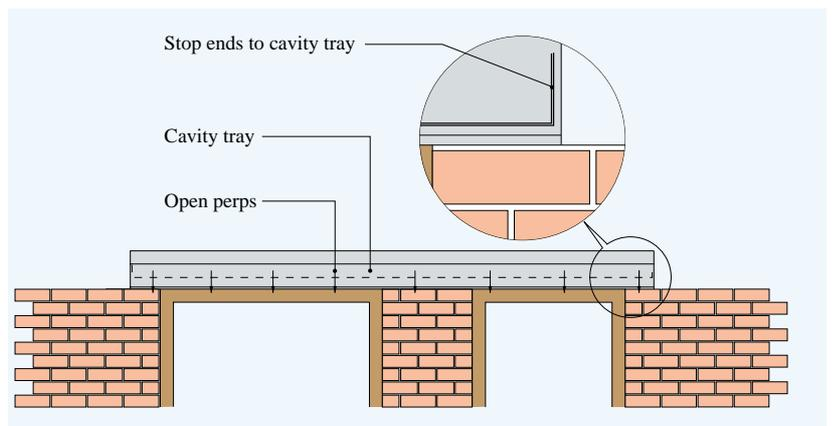

Figure 3 Cavity trays
- 6 Cavity trays should be continuous across closely spaced openings (Figure 3).